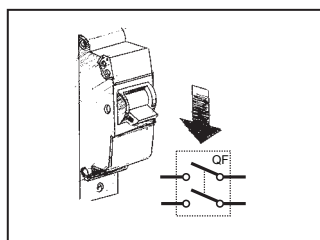

Fig. 16
Disconnect the fan from power mains prior to any maintenance operations, fig. 16.
1. Cut power supply off, fig. 16;